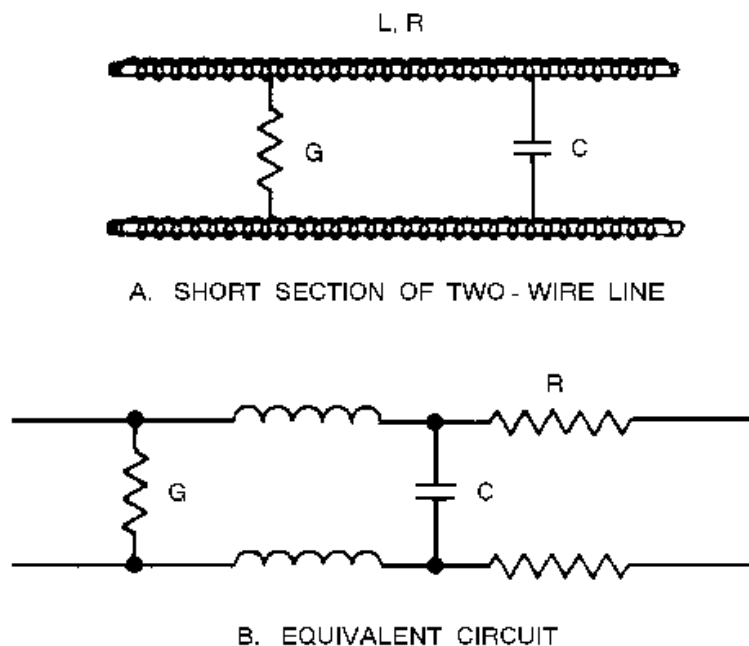
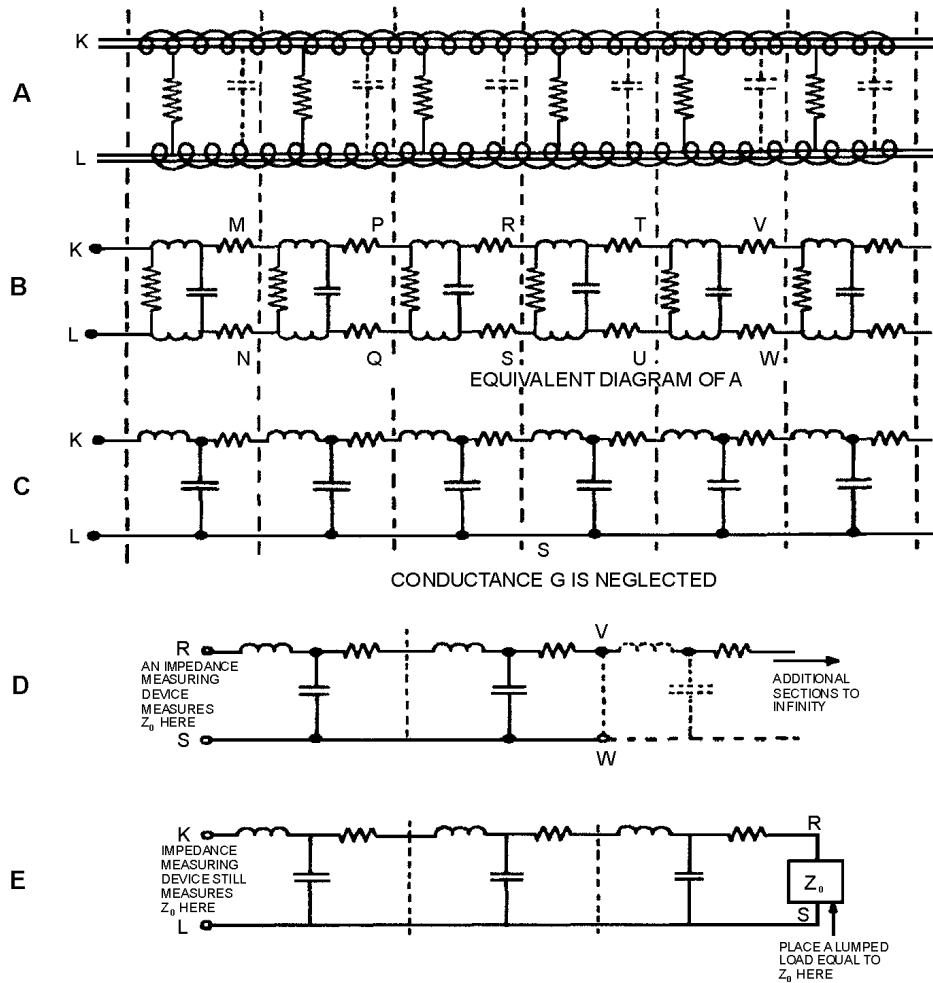

Figure 3-15.—Short section of two-wire transmission line and equivalent circuit.
Figure 3-16.—Characteristic impedance.
In a previous discussion, lumped and distributed constants were explained. Figure 3-15, view A, shows the properties of resistance, inductance, capacitance, and conductance combined in a short section of two-wire transmission line. The illustration shows the evenly distributed capacitance as a single lumped capacitor and the distributed conductance as a lumped leakage path. Lumped values may be used for transmission line calculations if the physical length of the line is very short compared to the wavelength of energy being transmitted. Figure 3-15, view B, shows all four properties lumped together and represented by their conventional symbols.
Several short sections, as shown in figure 3-15, can be combined to form a large transmission line, as shown in figure 3-16. Current will flow if voltage is applied across points K and L. In fact, any circuit, such as that represented in figure 3-16, view A, has a certain current flow for each value of applied voltage. The ratio of the voltage to the current is the impedance (Z).
To find the input impedance of a transmission line, determine the impedance of a single section of line. The impedance between points K and L, in view B of figure 3-16, can be calculated by the use of series-parallel impedance formulas, provided the impedance across points M and N is known. But since this section is merely one small part of a longer line, another similar section is connected to points M and N. Again, the impedance across points K and L of the two sections can be calculated, provided the impedance of the third section is known. This process of adding one section to another can be repeated endlessly. The addition of each section produces an impedance across points K and L of a new and lower value. However, after many sections have been added, each successive added section has less and less effect on the impedance across points K and L. If sections are added to the line endlessly, the line is infinitely long, and a certain finite value of impedance across points K and L is finally reached.
In this discussion of transmission lines, the effect of conductance (G) is minor compared to that of inductance (L) and capacitance (C), and is frequently neglected. In figure 3-16, view C, G is omitted and the inductance and resistance of each line can be considered as one line.